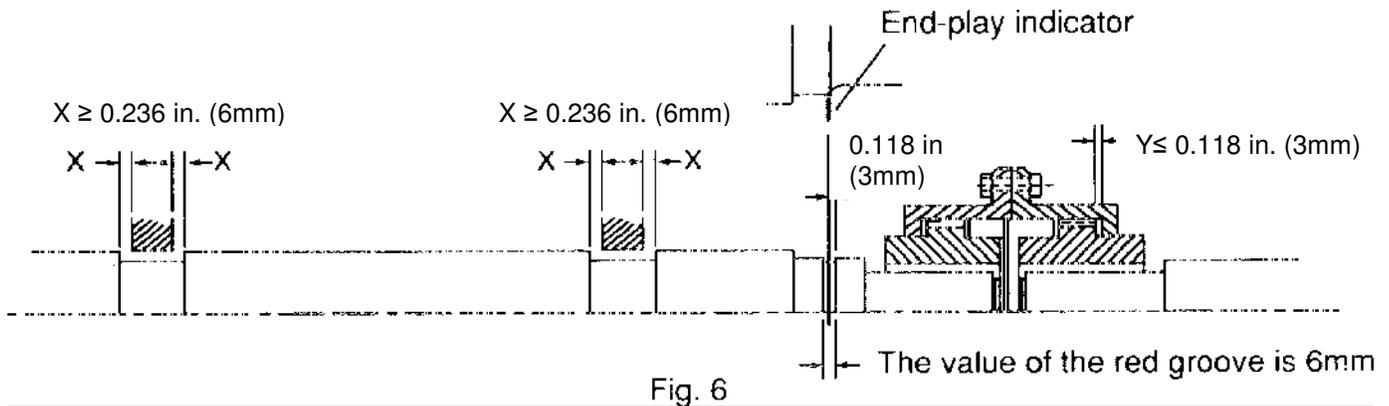

Fig. 6
- Unless otherwise specified, the designed end-play value X of the groove for TWMC motors in general is within 0.236 in. (6mm) as illustrated in Fig. 6. In essence, the endplay indicator is adjusted to point at the center of the groove or the drive-end shaft shoulder; thus X equals to $\pm 0.236 \text{ in (6mm)}$ so, and the endplay value (Y) of the couplings should equal or be smaller than 0.118 in. (3mm).